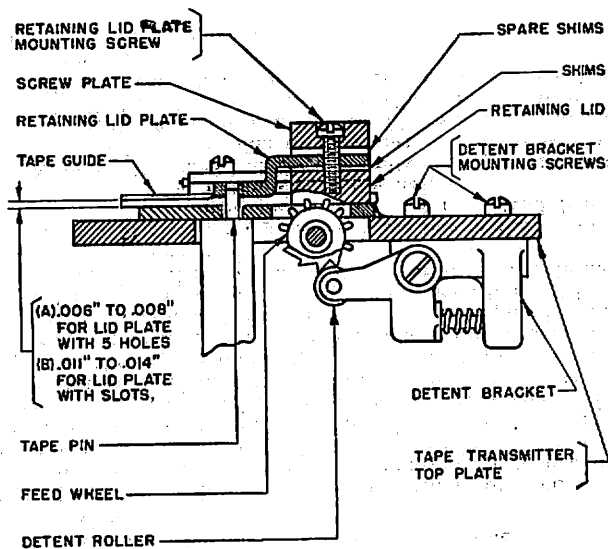

Fig. 8
4.16 **Retaining lid plate** having individual holes to clear tape pins shall clear tape guide by Min. .006", Max. .008", as in Fig. 8(A), when the retaining lid is latched closed and the play taken up in a direction to make this clearance a minimum.
4.17 **Retaining lid plate** having slots, either 2 or 5, to clear tape pins shall clear tape guide by Min. .011", Max. .014", as in Fig. 8(B), when the retaining lid is latched closed and the play taken up in a direction to make this clearance a minimum.